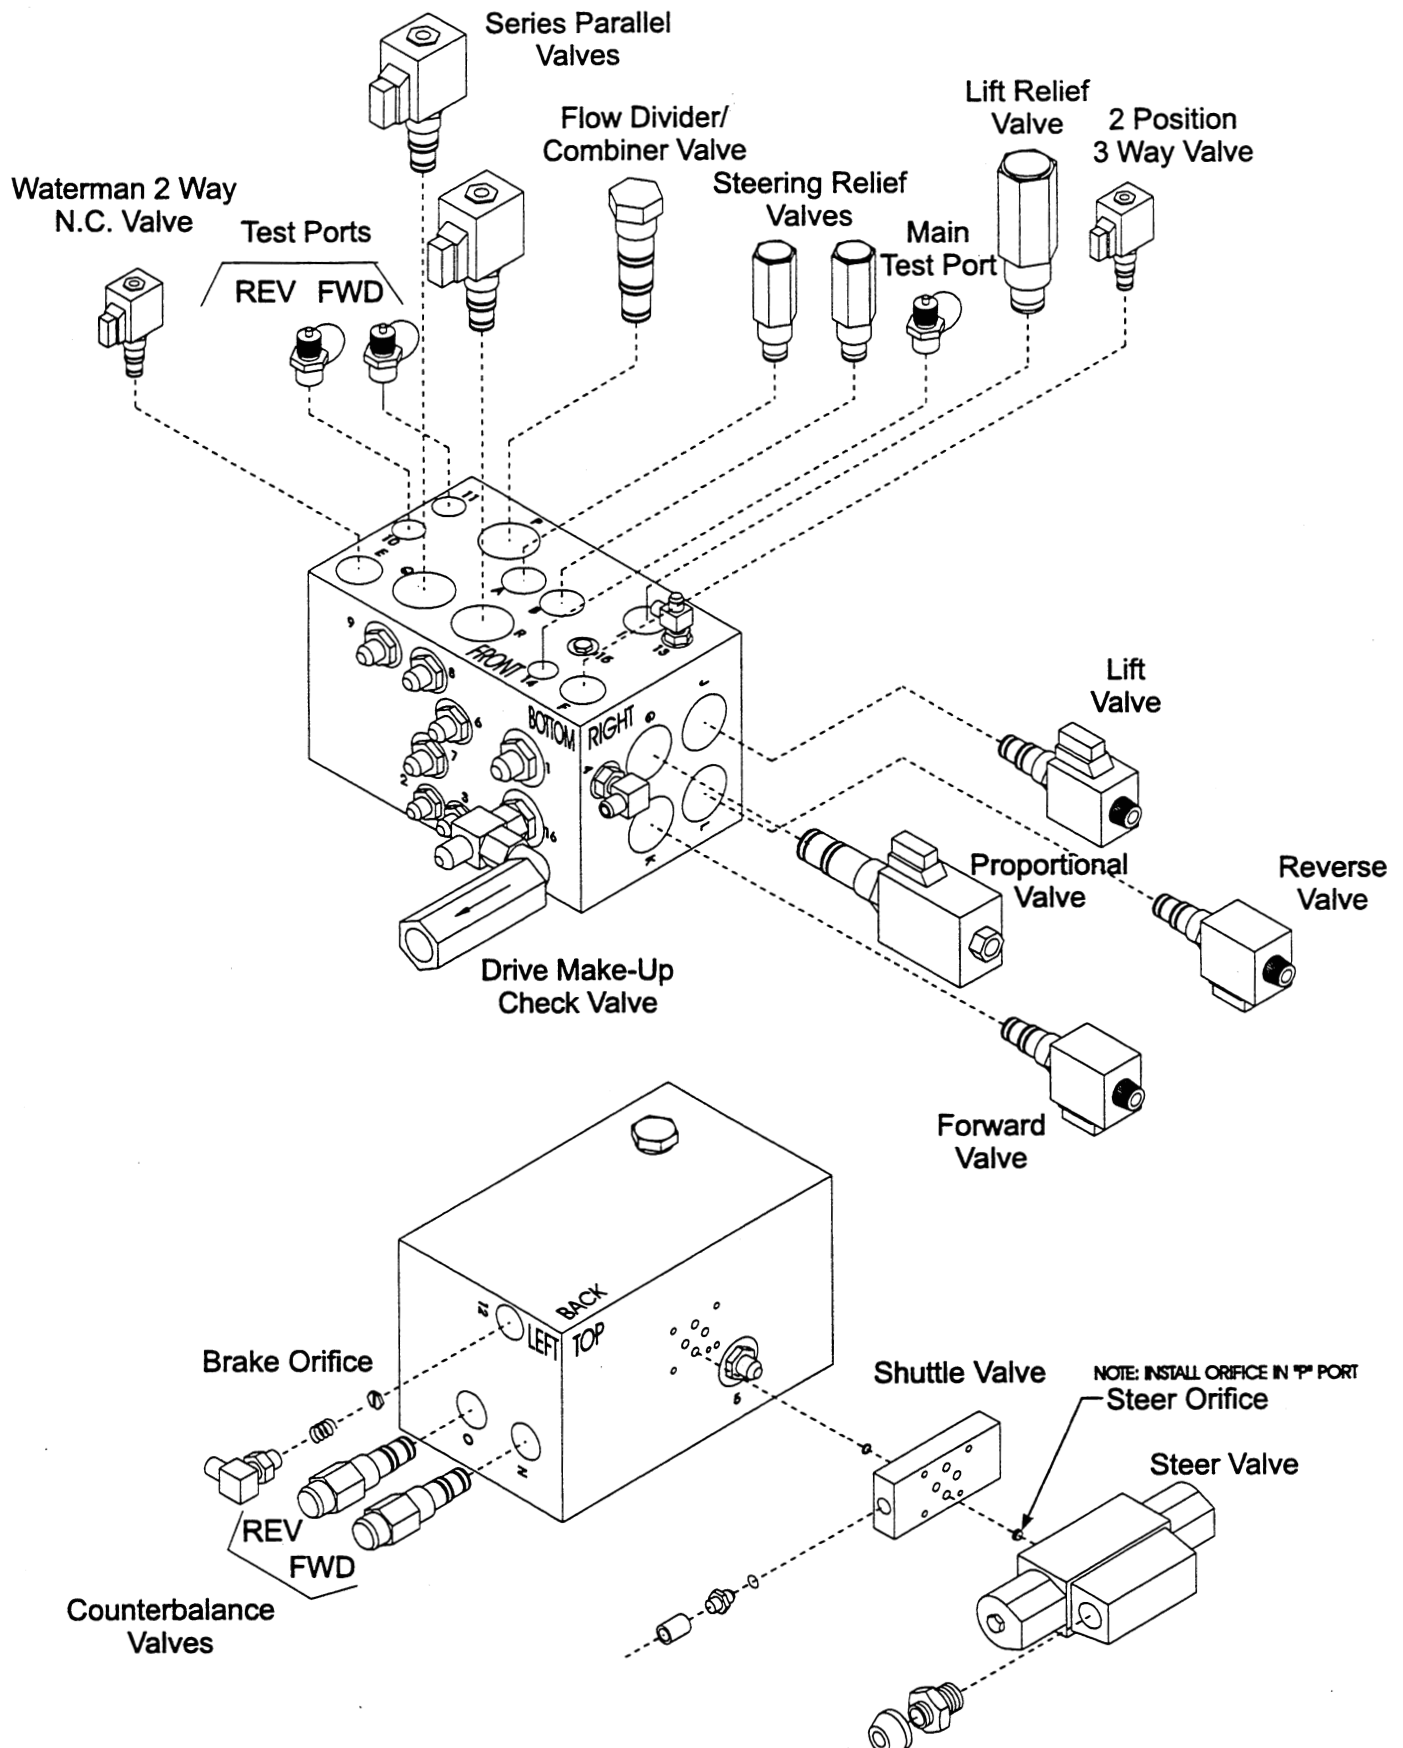

Figure 4-11: Hydraulic Manifold, Exploded View (4WD Shown)
**NOTE: Mark all components as they are removed so as not to confuse their location during assembly. Refer to Figure 4-11 often to aid in disassembly and assembly.**